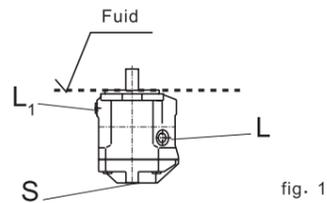

fig. 1
- a) When the minimum fluid level is the same as or is above the pump flange area then: ports L, L1 and S are open (see fig. 1).